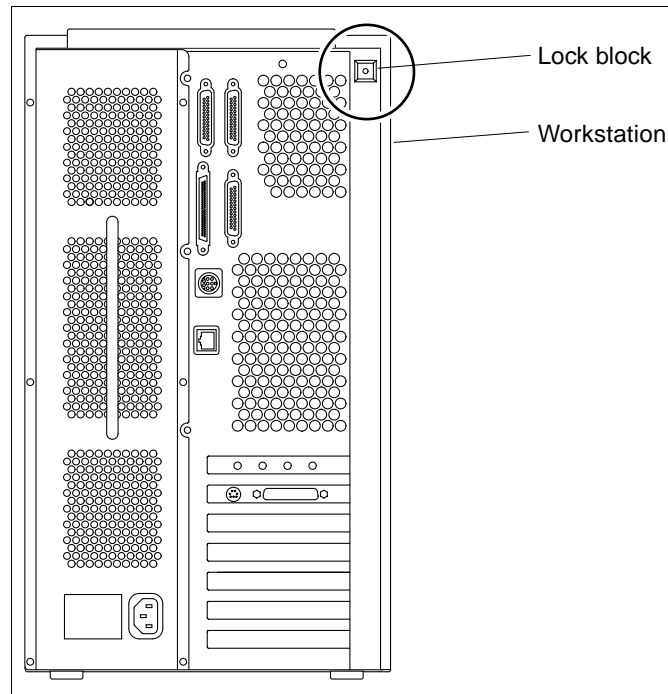

FIGURE 6-2 Lock Block Location
7. **Remove the lock block, if installed (FIGURE 6-2).**
- a. **Remove the lock block** (FIGURE 6-2).
5. Replace the lock block (FIGURE 6-2 on page 6-3).